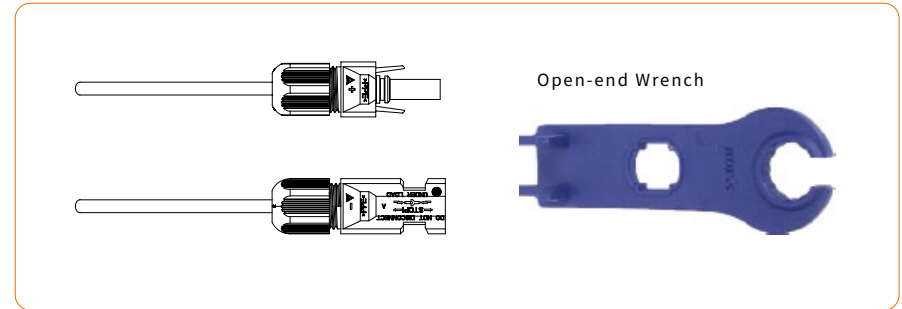

Figure 4-15
6) Use an open-end wrench to screw the nut to the end to ensure that the terminal is well sealed, as shown in Figure 4-15: